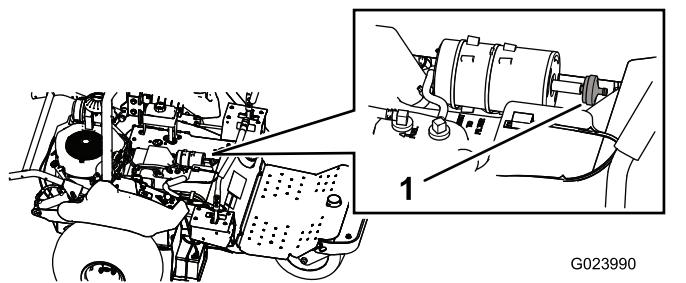

Figure 46
3. Disconnect the filter from the carbon canister (Figure 46).